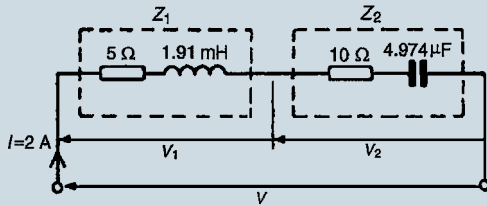

Figure 17.20
4. For the circuit shown in Fig. 17.20 determine the voltages V_1 and V_2 if the supply frequency is 1 kHz. Draw the phasor diagram and hence determine the supply voltage V and the circuit phase angle.